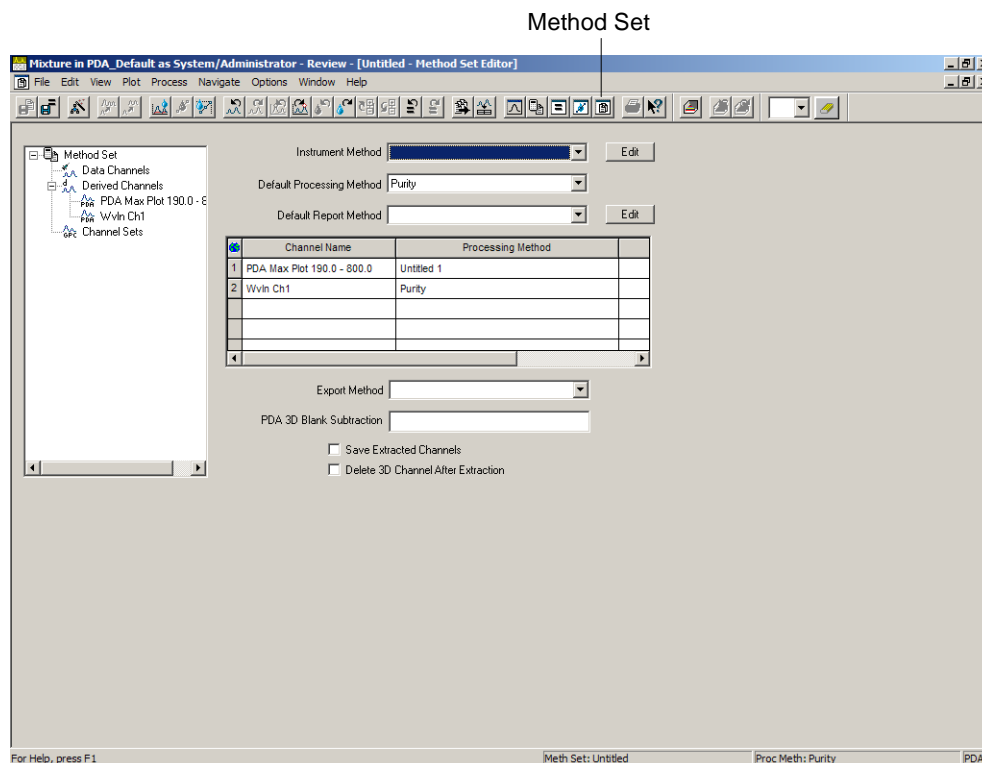

Figure 3-18 Method Set Editor Window
1. Click  (Method Set) or select **Window > Method Set** to open the Method Set Editor window (Figure 3-18).
3. Click the first row in the Channel table to select the Max Plot chromatogram (Figure 3-18). Press **Delete** on your keyboard to remove this row from the table.